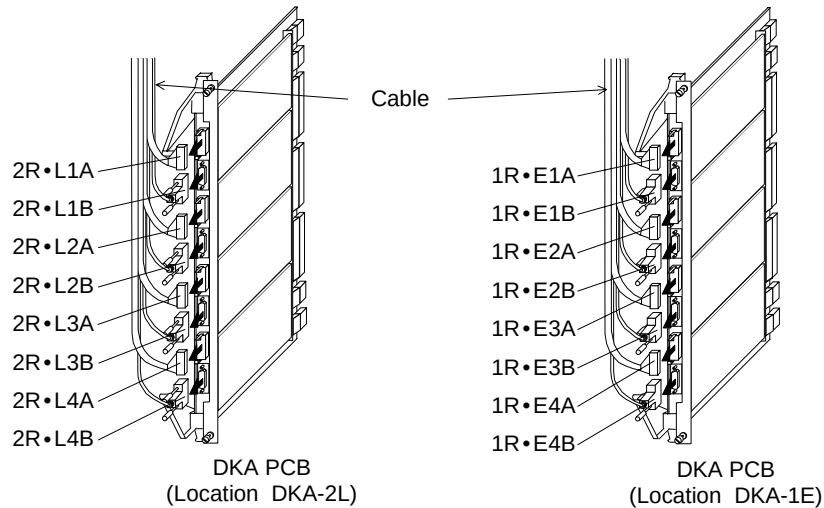

Fig.4.1.7-14 Disconnection of DEV Interface Cable (Add.3)
- a. Remove the two screws and remove the PCBs from the correct locations in the Rear Logic Box referring to Fig. 4.1.7-15.